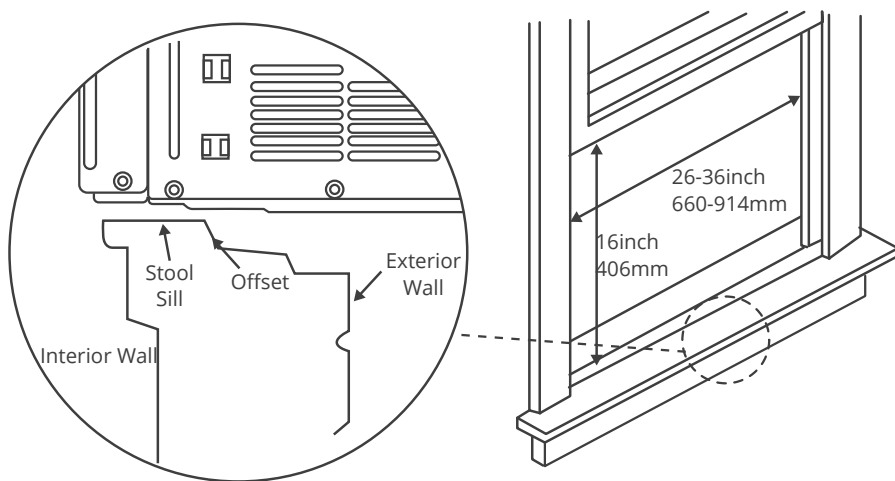

Fig.1
- The Lower Sash (the lower part of the window that moves up and down) must allow for 16" of vertical clearance when open. (See Fig.1).